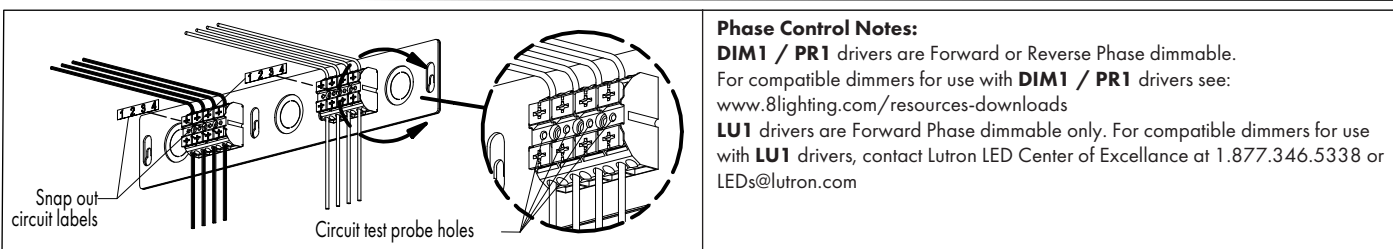

FIG 6.4 Accessing Circuit Probe Holes
3. Check circuit continuity using holes in terminal blocks – FIG 6.4.